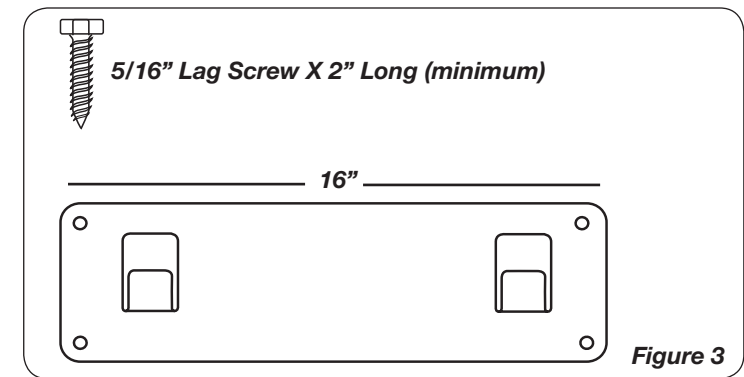

Figure 3
Your fan may be wall mounted using the new QuickMount® wall bracket supplied with your fan. (Figures 3 and 4)
3. Fasten wall bracket to mounting surface using 4 appropriately sized fasteners. Drill pilot holes as necessary. (See Figure 3).